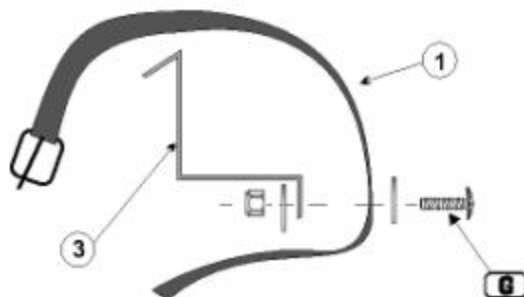

Fig. 1
**Step 1:** Pre-assemble holdown strap ① to outer Ladder Step Guide ③ using fas. group **G** (see fig.1). Buckle towards the top so it can be placed over ladder then tightened by pulling down on the strap once it is in the buckle.
**Step 3:** Install outer Ladder Step guide with the Holddown Strap attached (Fig.1) to Cross Supports using fas. Group (F) See Fig. 4